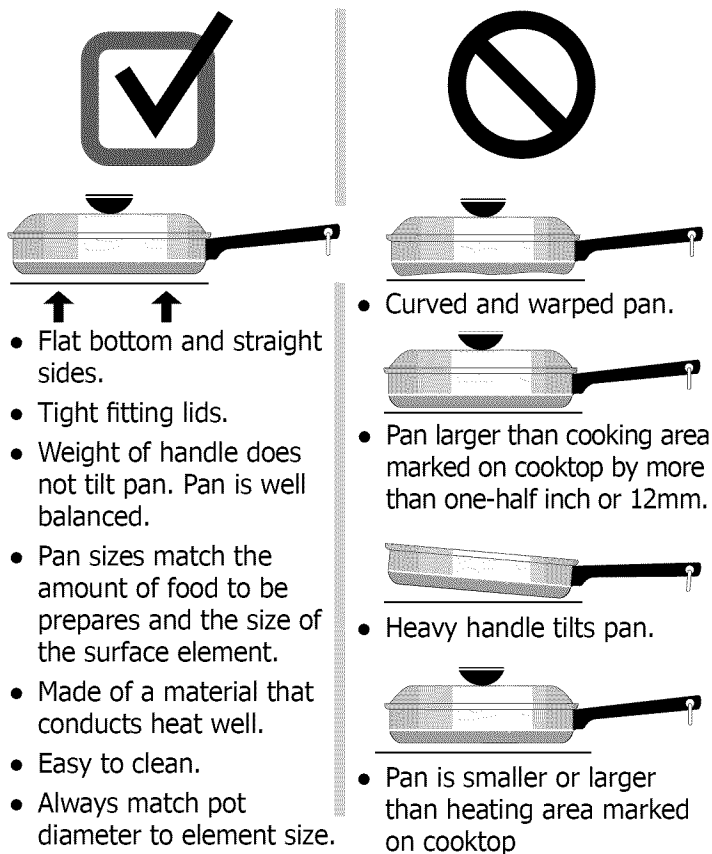
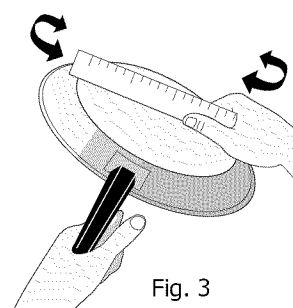

Fig. 2
Fig. 3
Oven with hidden Bake Element - Fig. 3\*
4. Assemble one connector arm at a time. With the oven door open and the oven rack in place, install one end of the connector arm to the hole in the **door connector bracket** (Fig. 1) and the other end in the hole in the **rack connector bracket** (Fig. 2 and as in Fig. 3). The oven rack may need to be adjusted in or out in the rack position to match the length of the connector arm.
The size and type of cookware used will influence the setting needed for best cooking results. Be sure to follow the recommendations for using proper cookware as illustrated in Figs. 2 & 3.
Cookware should have flat bottoms that make good contact with the entire surface heating element (See Fig. 2). Check for flatness by rotating a ruler across the bottom of the cookware (See Fig. 3).